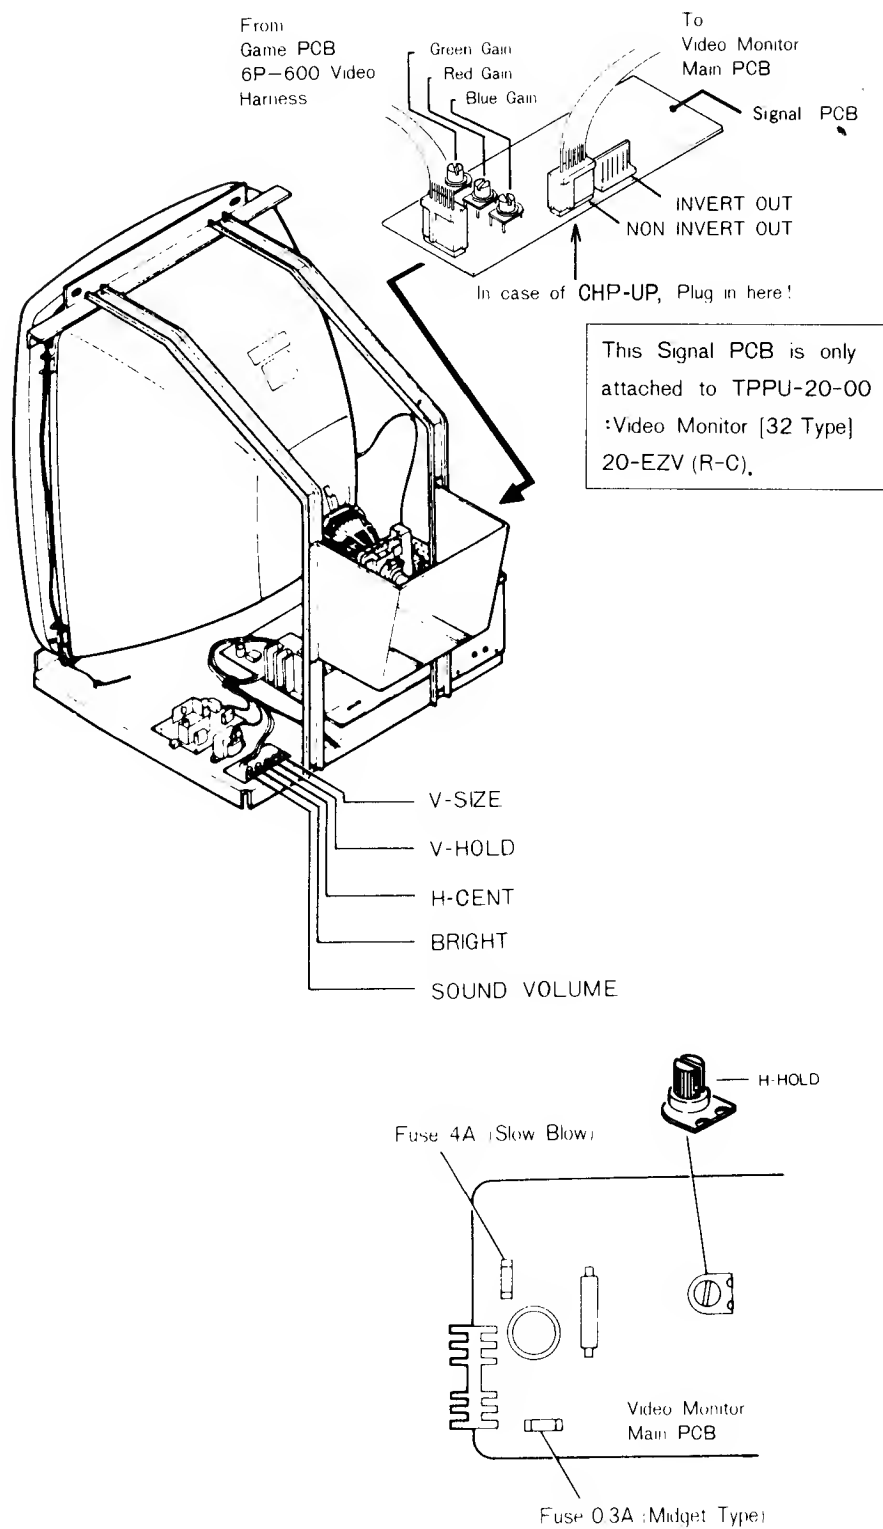

Fig. 4 Video Monitor
(3) Video Monitor Fuse	4A 125V 0.3A 125V See Fig. 4